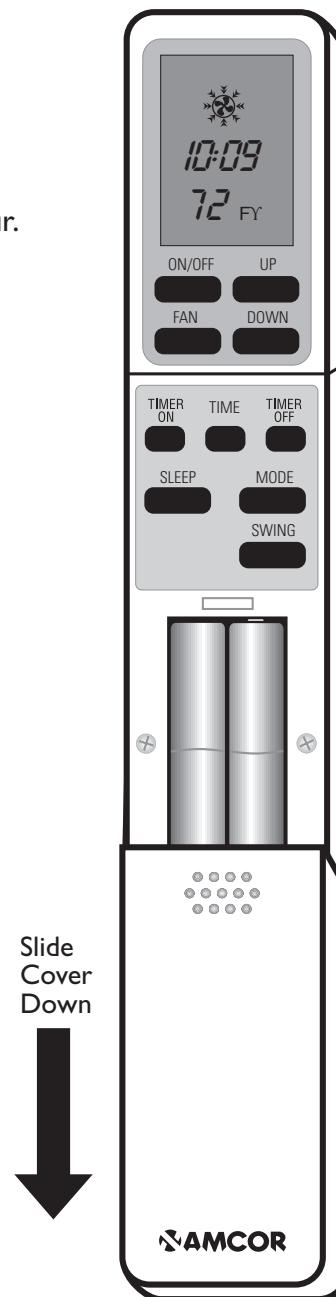

fig. 1
Insert batteries by pulling down on front cover (See fig. 1).
- Separate the filter fixer from the filter holder (see fig. 1).